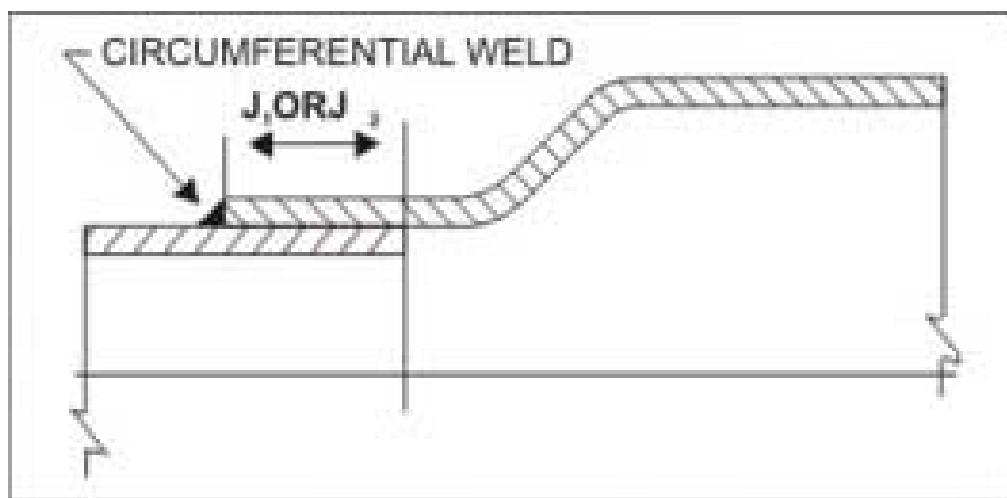

Fig.1
7.2 Unless swaging is done by special process such as rotary or longitudinal die swaging process a circumferential weld shall be deposited at the upper end of the joint (Fig. 1) at a slope of approximately 45° . This circumferential weld shall be deposited only after the poles are subjected to and conforms to all the test requirements specified in this standard.